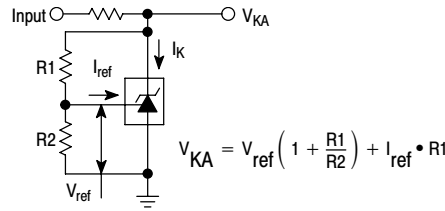

Figure 2. Test Circuit for $V_{KA} > V_{ref}$
- The dynamic impedance Z_{KA} is defined as: |Z_{KA}| = $\frac{\Delta V_{KA}}{\Delta I_K}$. When the device is programmed with two external resistors, R1 and R2, (refer to Figure 2) the total dynamic impedance of the circuit is defined as: |Z_{KA}'| ≈ |Z_{KA}| (1 + $\frac{R1}{R2}$)
6. The dynamic impedance Z_{KA} is defined as $|Z_{KA}| = \frac{\Delta V_{KA}}{\Delta I_K}$ When the device is programmed with two external resistors, R₁ and R₂, (refer to Figure 2) the total dynamic impedance of the circuit is defined as: $|Z_{KA}'| \approx |Z_{KA}| \left(1 + \frac{R_1}{R_2} \right)$